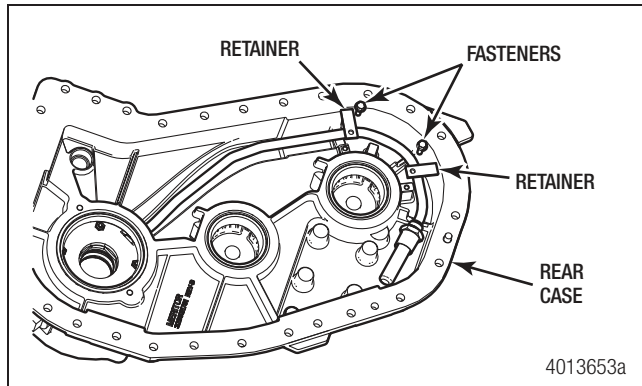

Figure 6.14
3. From the inside of the case, remove the two fasteners from the oil line retainers. Figure 6.14.